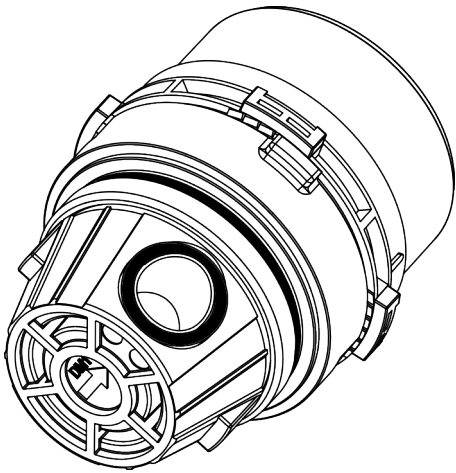

Figure 20. Gasket DM1
2. Check that the O-ring on the outlet side of the flow diverter is seated correctly and correct if necessary (Fig. 20).